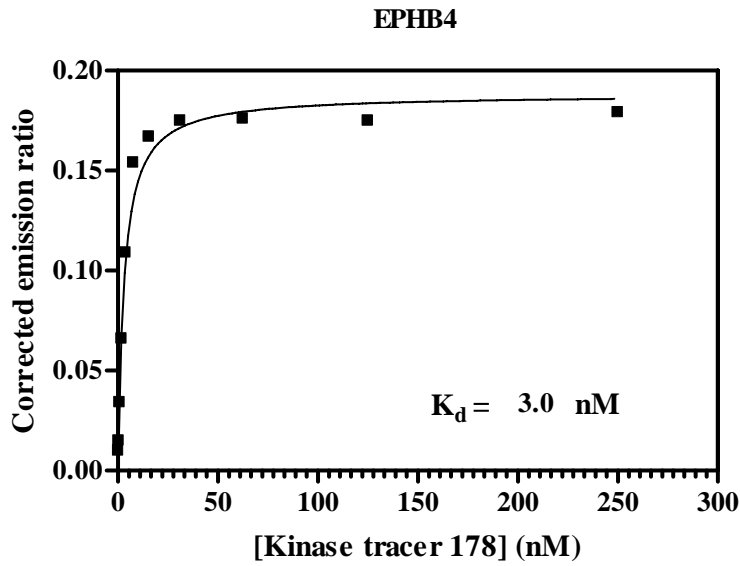

Figure 5. Tracer K_d determination.
- Plot the background-corrected emission ratios versus [tracer] and fit to the one site binding (hyperbola) equation to estimate the dissociation constant (Figure 5). In some cases data at the highest one or two tracer concentrations are excluded from curve fits due to relatively high “background” signal in presence of competitor. This can be observed as these data points deviate from the one site binding model, whereas the other points align.